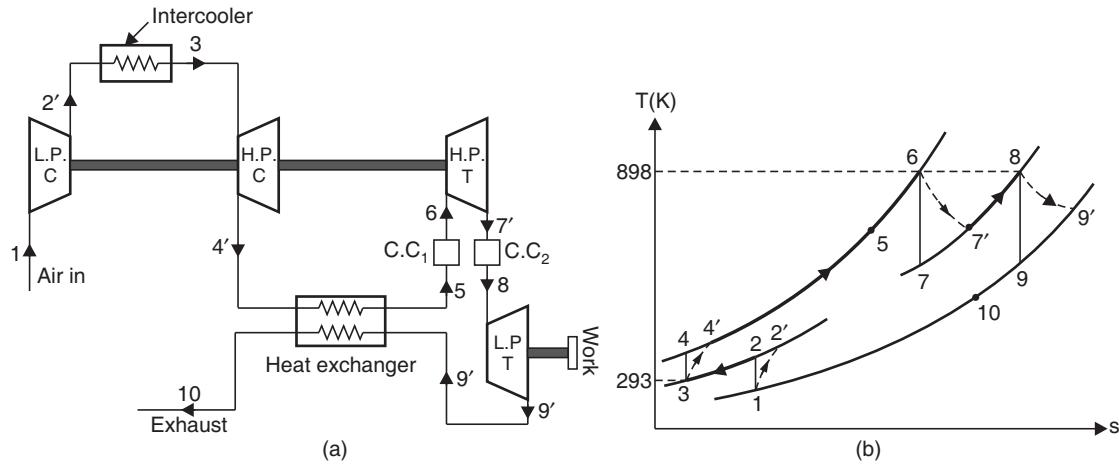

Fig. 4.64
**Solution.** Refer to Fig. 4.64.